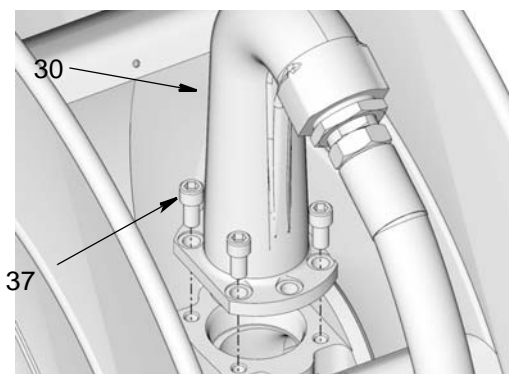

FIG. 12: Low Pressure Model Shown.
15. Install outlet (30) to spool. Replace and tighten all bolts (37) securely. Torque bolts to 24 to 30 ft. pounds (32.54 to 40.67 N.m) (FIG. 12).
- Low Pressure Models (shown in FIG. 12) use 4 bolts (37).
- Medium Pressure Models (not shown) use 6 bolts (37).